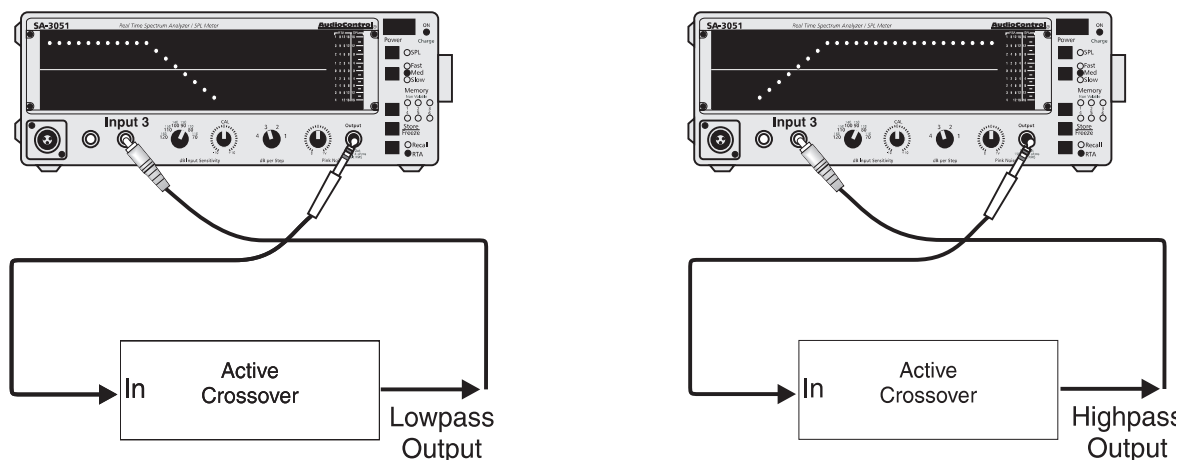

Figure 5.8. Checking an active crossover
1. Two load resistors, resistance equal to the impedance rating of the crossover. 1 Watt power rating is sufficient. You can also use the speakers that will be connected to the crossover as a load. If you're checking an active crossover, you don't need the load resistors. Use the setup shown in Figure 5.8.